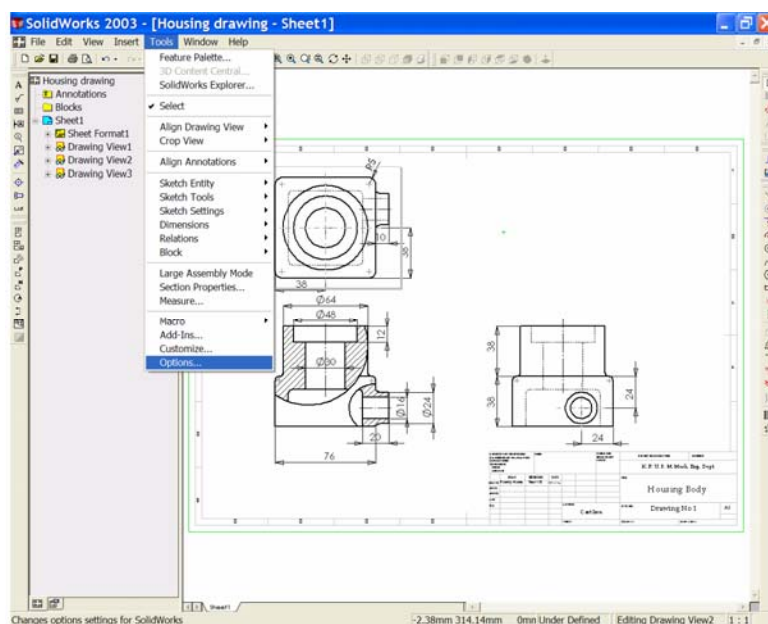
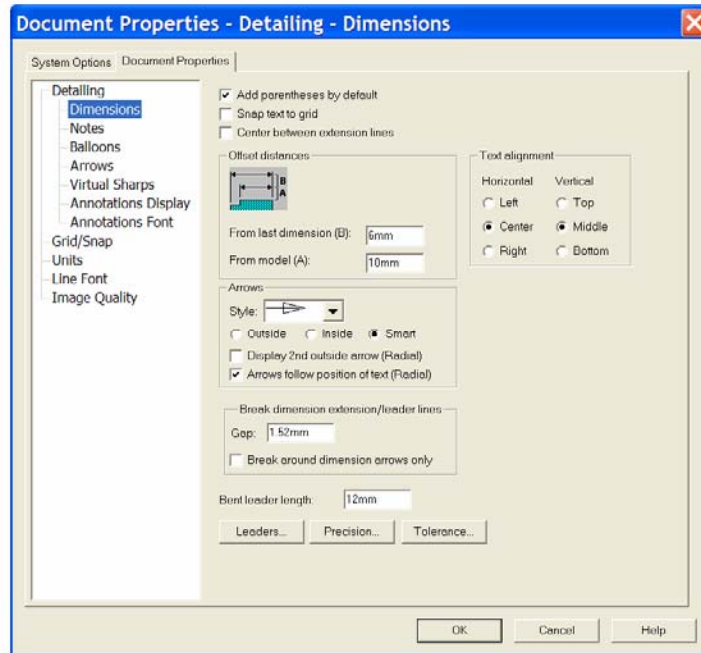

Figure 38
Figure 39
34. The dimension font, font size, arrow style and arrow size may be changed globally. From the **'Tools'** drop down menu choose **'Options...'**, See Figure 38. The System Options dialog box opens, usually at **'General'**. Select the **'Document Properties'** tab. Under **'Detailing'** select **'Dimensions'**. See Figure 39. In the **'Arrows'** area, choose the down arrow to view and select an arrow style.